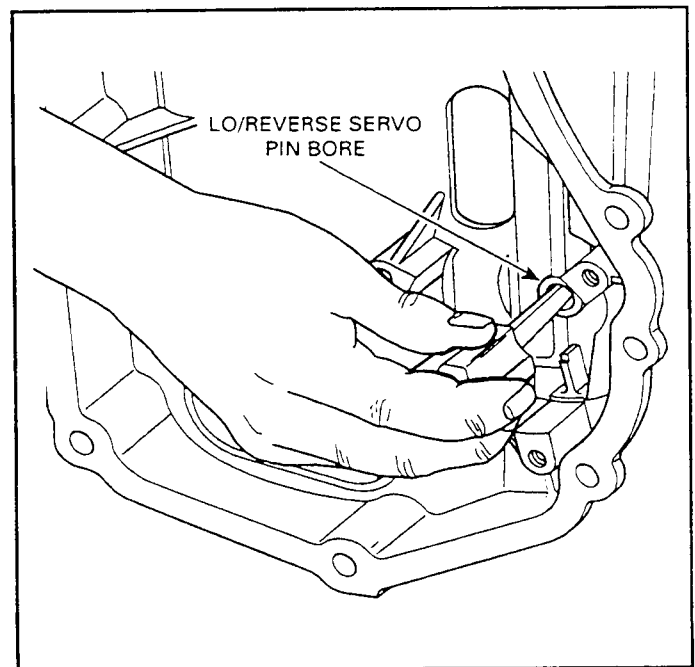

Figure 119
19. Verify the proper installation of the Lo/Reverse band by inserting a screwdriver through the reverse servo pin hole as shown in Figure 119.